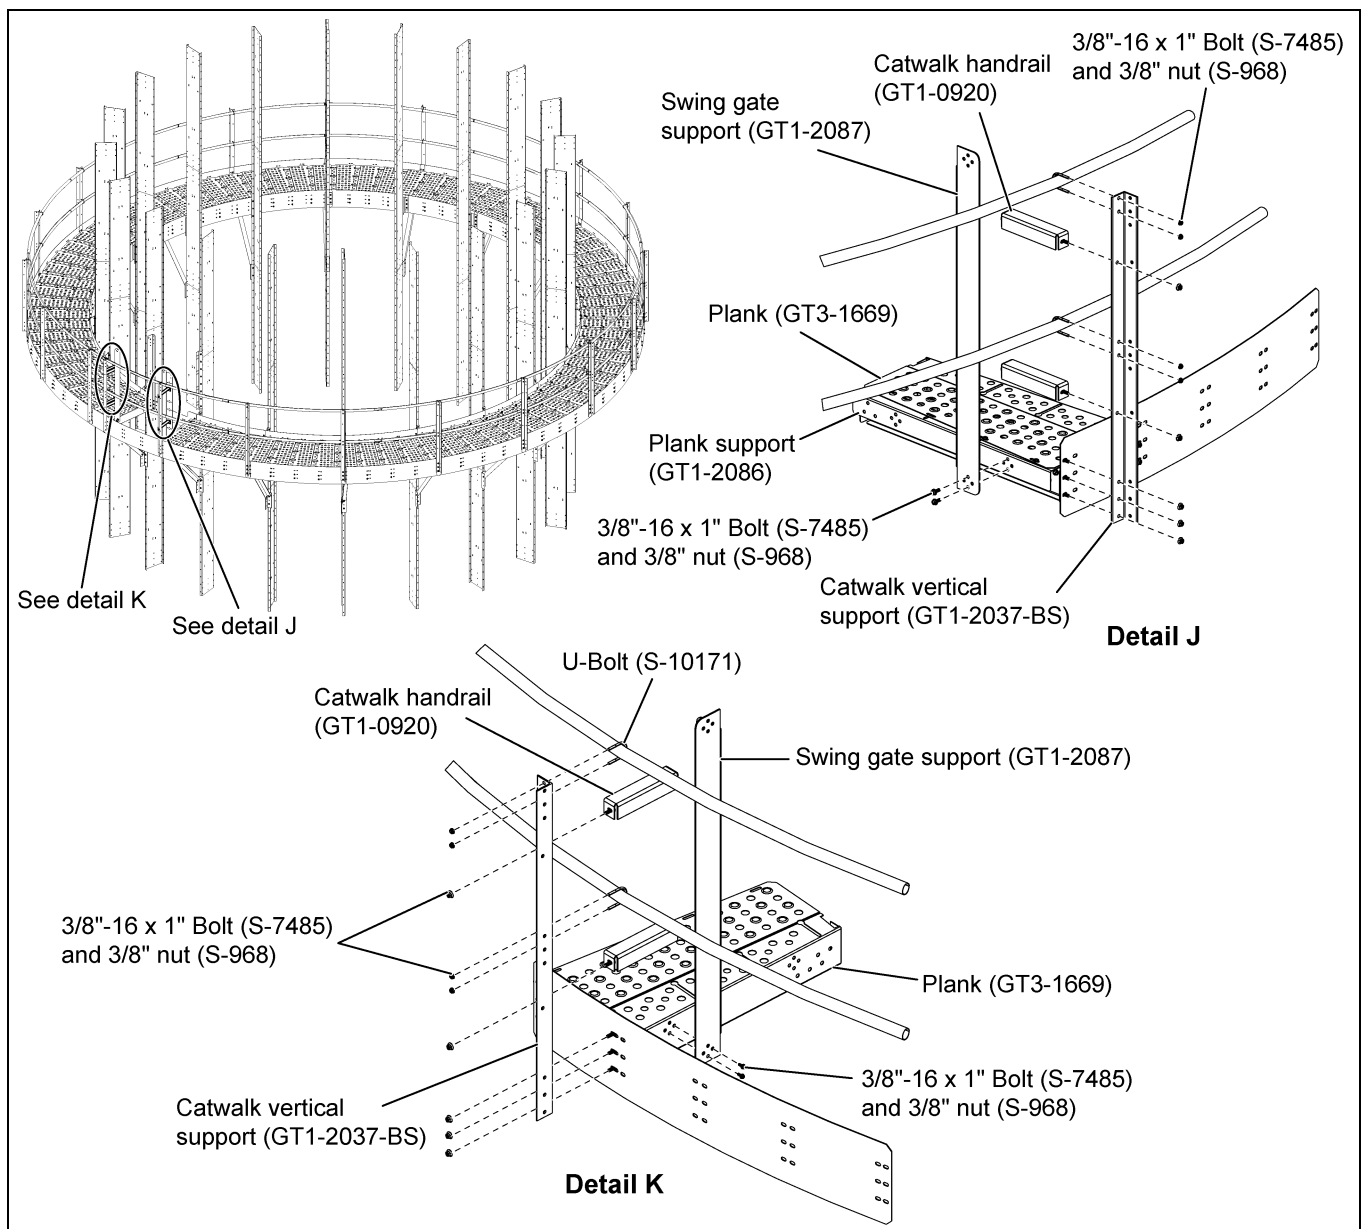

Figure 4X
1. Install the swing gate support (GT1-2087) with the plank support (GT1-2086) using 3/8"-16 x 1" JS grade 8 or grade 8.2 bolts (S-7485) and 3/8"-16 ZN grade 5 nuts (S-968). (See detail J in Figure 4X.)
2. Install two (2) catwalk handrails (GT1-0920) between the swing gate support (GT1-2087) and the catwalk vertical support (GT1-2037-BS) using 3/8"-16 x 1" JS grade 8 or grade 8.2 bolts (S-7485) and 3/8"-16 ZN grade 5 nuts (S-968). (See detail J in Figure 4X.)
3. On the other side, install the swing gate support (GT1-2087) to the plank (GT3-1669) using 3/8"-16 x 1" JS grade 8 or grade 8.2 bolts (S-7485) and 3/8"-16 ZN grade 5 nuts (S-968). (See detail K in Figure 4X.)
4. Install two (2) catwalk handrails (GT1-0920) between the swing gate support (GT1-2087) and the catwalk vertical support (GT1-2037-BS) using 3/8"-16 x 1" JS grade 8 or grade 8.2 bolts (S-7485) and 3/8"-16 ZN grade 5 nuts (S-968). (See detail K in Figure 4X.)